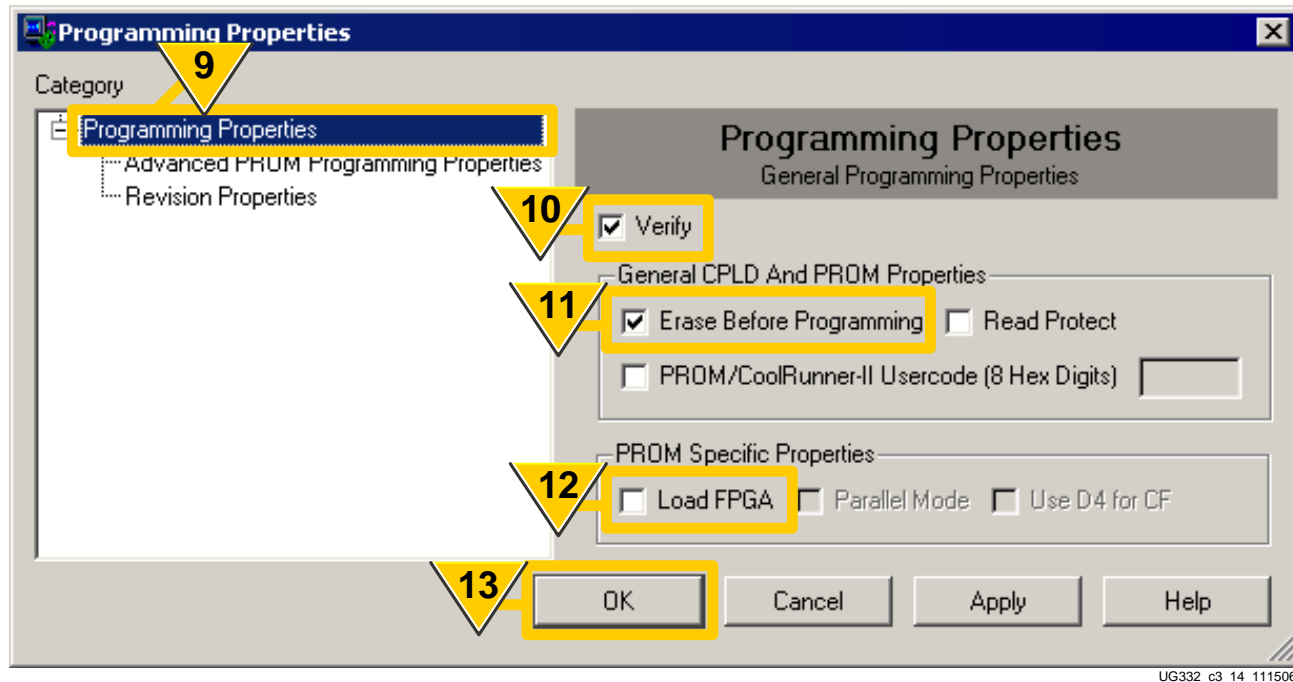

Figure 3-19: PROM Programming Options
9. Click **Programming Properties**, as shown in Figure 3-19.